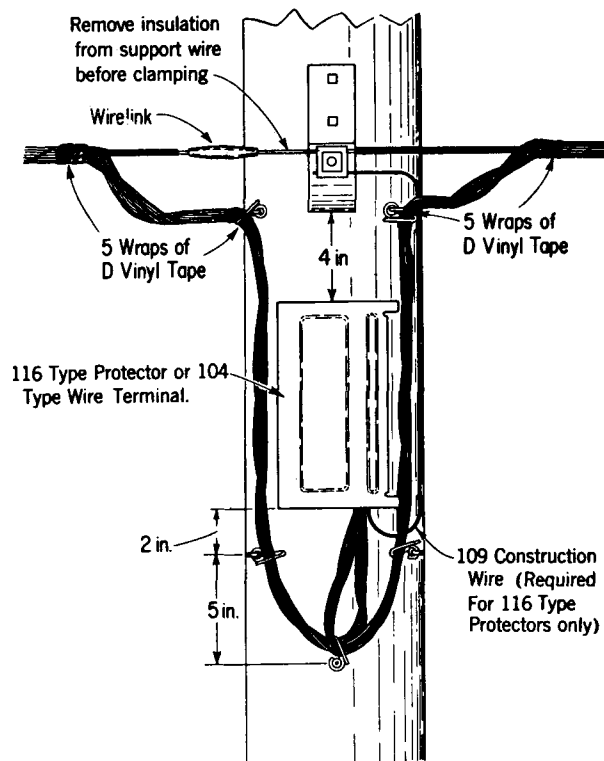

Fig. 13 – Intermediate Pole
4.02 At intermediate poles, 6-pair wire terminals or protectors can be located as shown in Fig. 13.